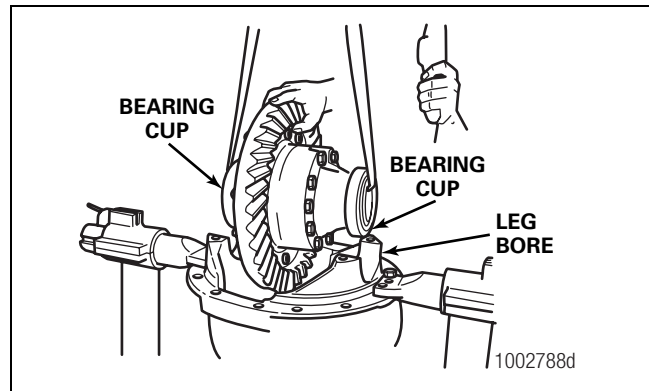

Figure 5.32
5. Install the bearing cups over the bearing cones in the case halves. Figure 5.32.
6. Safely lift the differential and ring gear assembly and install it into the carrier. The bearing cups must be flat against the bores between the carrier legs. Figure 5.32.